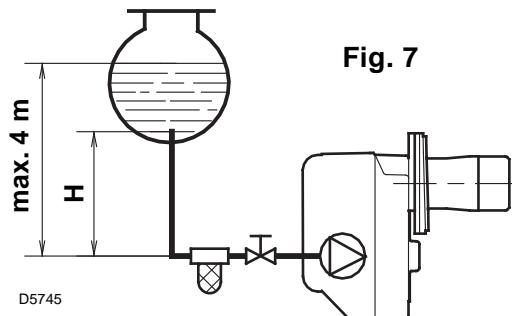
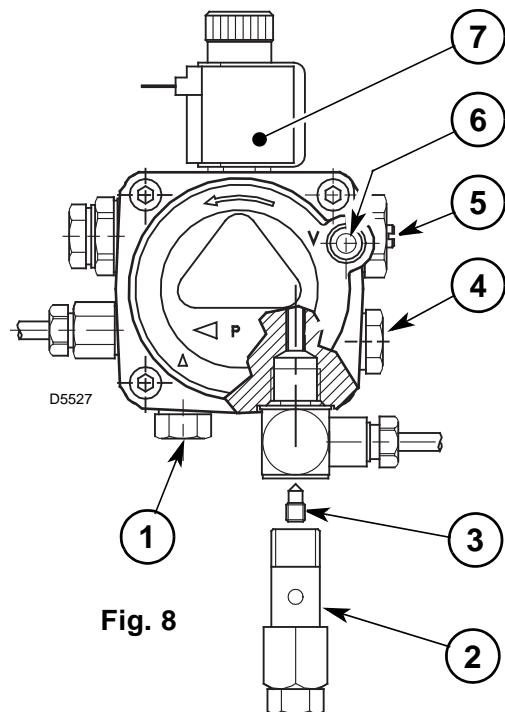

Fig. 7
Fig. 8
- The pump is designed to allow working with two pipes. In order to obtain one pipe working it is necessary to unscrew the pin (2), remove the by-pass screw (3) and then screw again the pin (2), (see fig. 8).
On the system in fig. 7 it is sufficient to loosen the suction gauge connection (6, fig. 8) and wait until oil flows out.
The pressure gauge must be mounted in place of plug (4, fig. 8, page 4).
Should it be necessary to re-set or alter such pressure, this can be done, by adjusting screw (5, fig. 8, page 4).